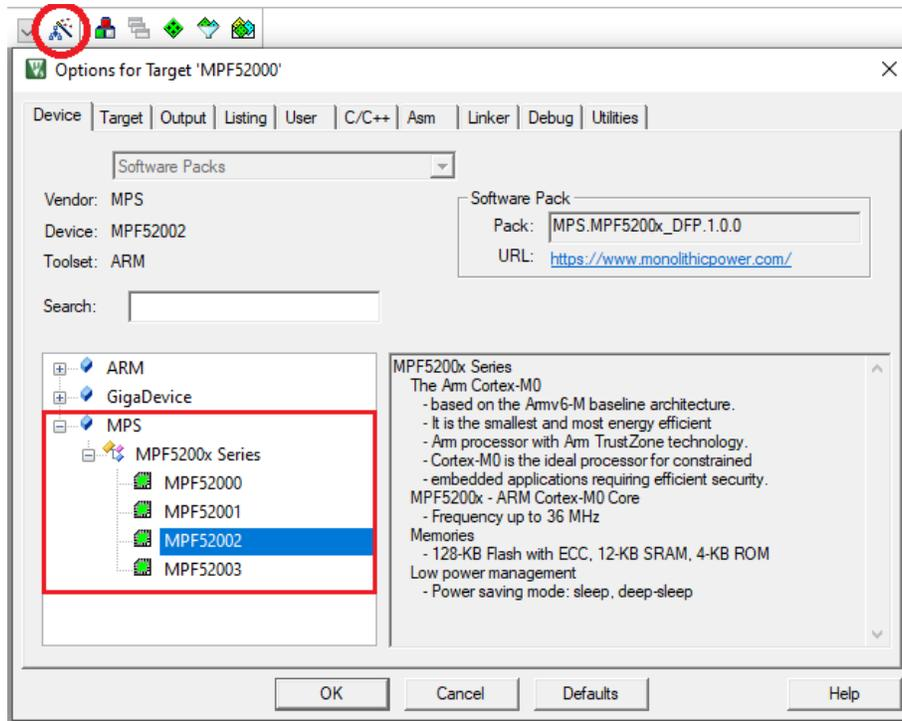

Figure 13: Selecting the MPF52002
- d. Click “Options for Target...” > “Device”. MPS devices should be on the list once the software pack is correctly installed. Select the “MPF52002” and click “OK” to select the device (see Figure 13 on page 12).